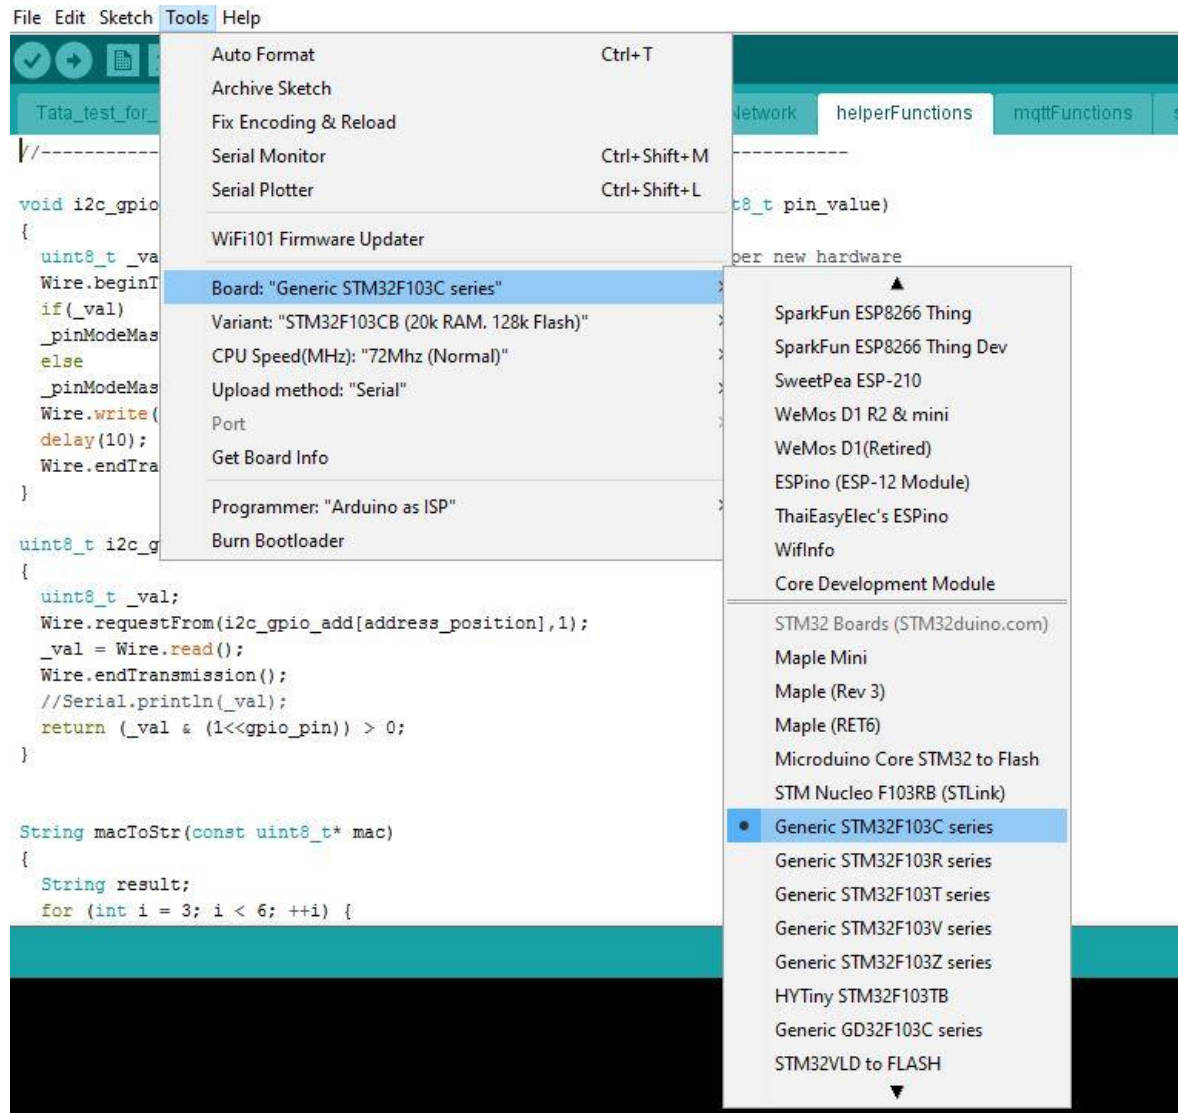

Figure 2: Board Selection
3. Click on Tools Tab, move mouse pointer on "Board: "xxxxxxx" and click on "Generic STM32F103C Series" as shown in figure 2.